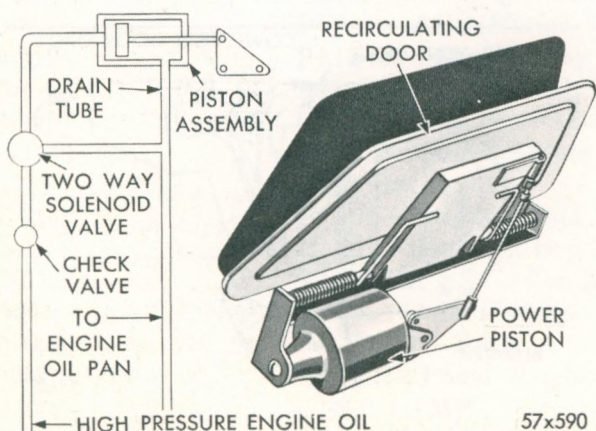
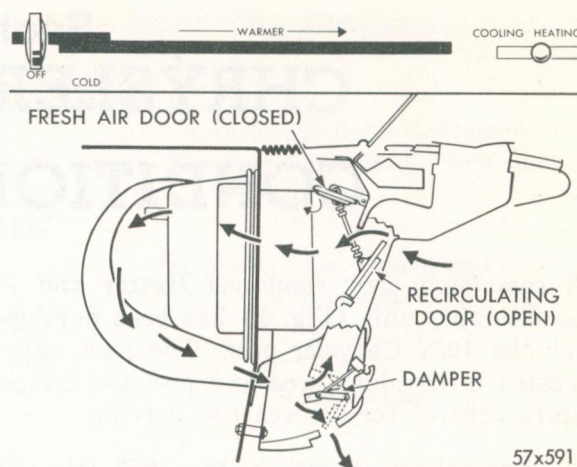
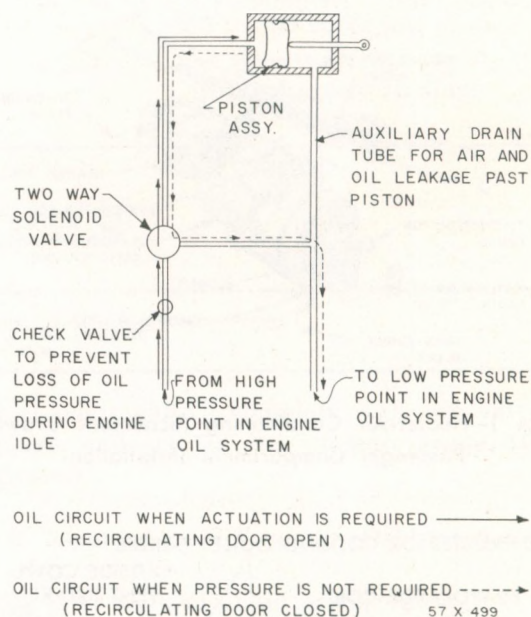

Fig. 5—Power Piston and Recirculating Door
Fig. 6—Recirculating and Fresh Air Door
Fig. 7—Hydraulic Circuit for Power Piston
The main control lever, operating through a cable, operates the water temperature valve and also the fresh air and recirculating door through two electric switches, the solenoid valve, and power piston assembly (Fig. 5). When the solenoid valve is energized, it permits engine oil pressure to act on the power piston, closing the cowl vent fresh air door and opening the recirculating door. Figure 6 shows fresh air and recirculating doors. Figure 7 shows schematic diagram hydraulic circuit for operating the power piston.
d. Moving the main control lever from "Off" to "Cold" or No. 2 position, (Fig. 6) with toggle switch in "Heating" position.